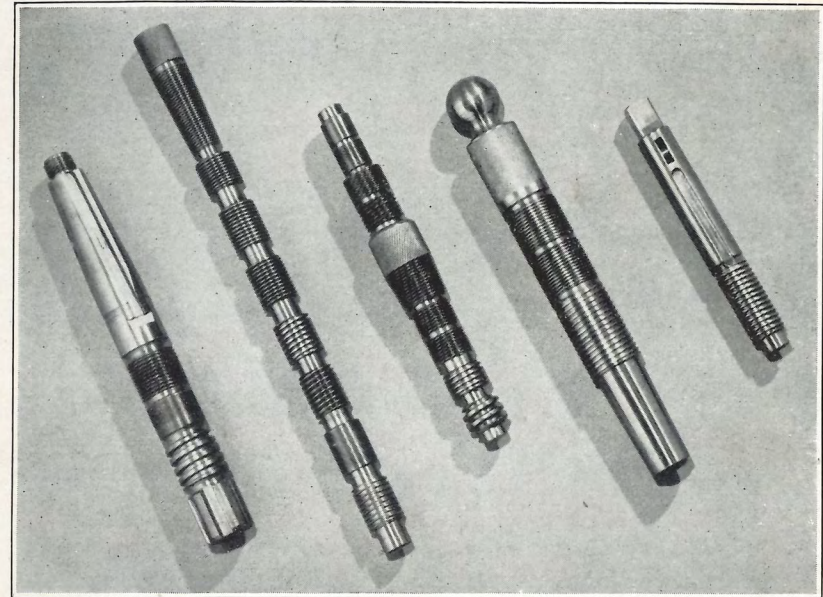

FIG. 123. A few of the threads that can be cut on an Atlas lathe.
No phase of lathe operation is more interesting or profitable than the cutting of screws and threads; and no operation requires more care and study. The thread cutting range of the Atlas is practically unlimited—a few sample threads are shown in Figure 123. This section deals with the two classes of thread cutting problems: (1) those connected with the change gear train and its proper set-up for cutting the various sizes of threads, and (2) the actual cutting of the many thread forms.